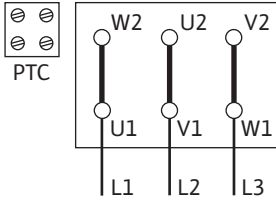

Fig. 12: Δ connection
- The mains connection is dependent on the motor power P2, mains voltage and activation type. Refer to the following table and Fig. 12 and 13 for the required connection of the connecting bridges in the terminal box.